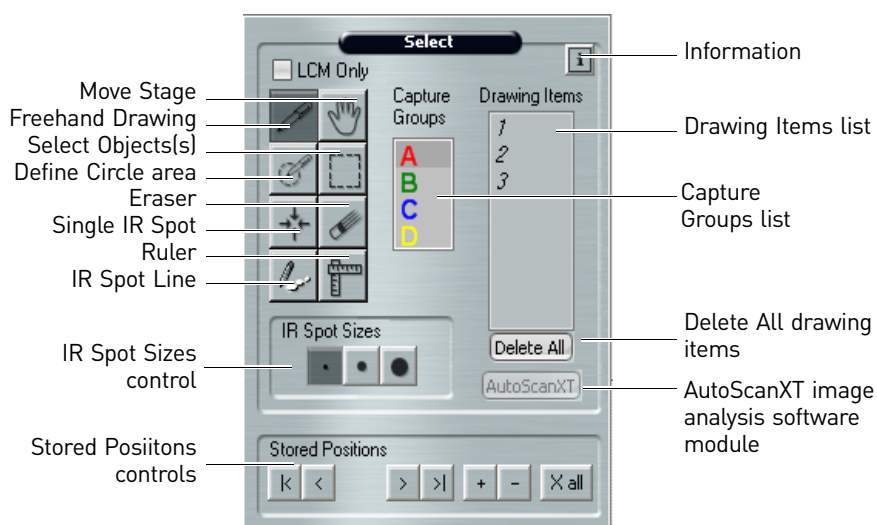

Figure 42 The Select tools pane
This chapter explains how to indicate the cells and tissue you want to microdissect, how to use the drawing tools, how to measure a distance or object size in the main image window, and how to set the size of the IR capture spots inside your samples. It also explains how to use overlays, capture groups, and stored positions. You will access all of these features from the Select tools pane (see Figure 42).
You use the Select tools pane (see Figure 42 on page 55) to mark the cells for microdissection.
1. Click the desired size (small, medium, or large) in the **IR Spot Sizes** control in the Select tools pane (see Figure 42 on page 55) to choose the relative size of the IR capture spots.
3. When you are done marking cells for microdissection, tap or click the **Move Stage** tool (Figure 42 on page 55) to turn off the drawing tool.
For each item that you draw, a number appears in the Drawing Items list located to the right of the Capture Groups list (see Figure 42 on page 55).
1. Click the **Select Object(s)** tool (see Figure 42 on page 55), then click in the main image window.
1. Click the **Select Object(s)** tool (see Figure 42 on page 55), then click in the main image window: